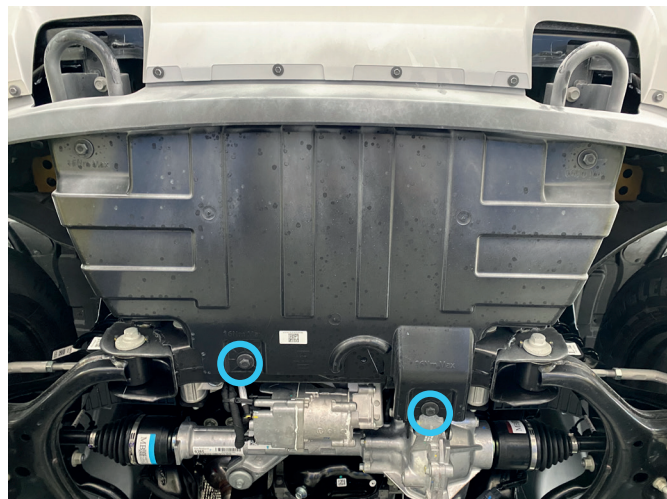

Fig. 2
***If the vehicle has radiator skid plate, loosen the rear bolts of radiator skid plate or bolts of RIVAL radiator skid plate 2111.1884.1.3 / 2333.1884.1 / 2333.1884.1.6 (fig.2).**